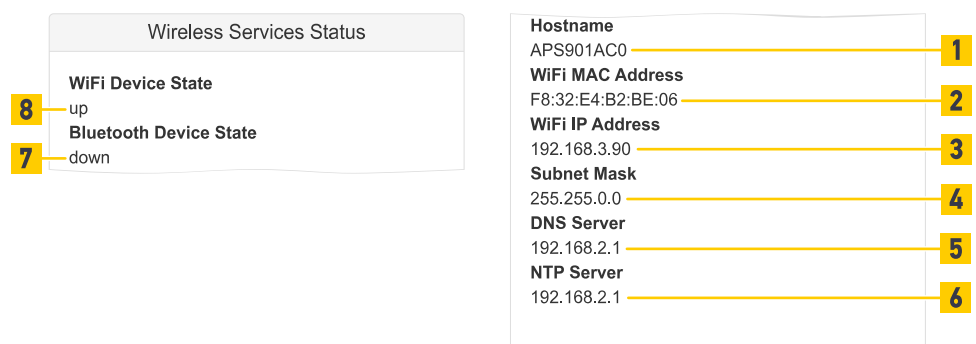

Fig. 129: Wireless services status
- If the wireless USB adapter is attached to the sensor at startup and is working, the WiFi Device State (Fig. 129 /8) shows *<up>*.
- If the Bluetooth USB adapter is attached, the Bluetooth Device State (Fig. 129 /7) shows *<up>*.
- Using the WiFi Mode WiFi HMI Access or WiFi Data Interface some additional network information are displayed. The Hostname (Fig. 129 /1), WiFi MAC Address (Fig. 129 /2), WiFi IP Address (Fig. 129 /3) and the Subnet Mask (Fig. 129 /4) is displayed in both modes.
- The DNS Server (Fig. 129 /5) and NTP Server (Fig. 129 /6) is displayed in WiFi Data Interface mode.